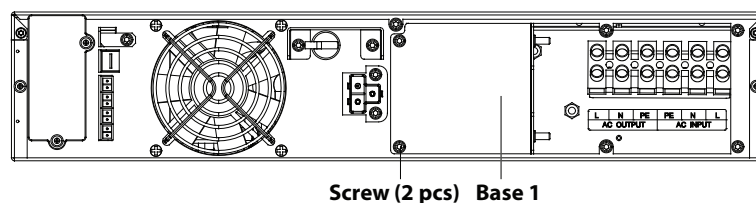

Figure 17: Installing Base 1
3. Use two rear panel mounting screws to install Base 1 to the UPS rear panel, as shown in Figure 17.